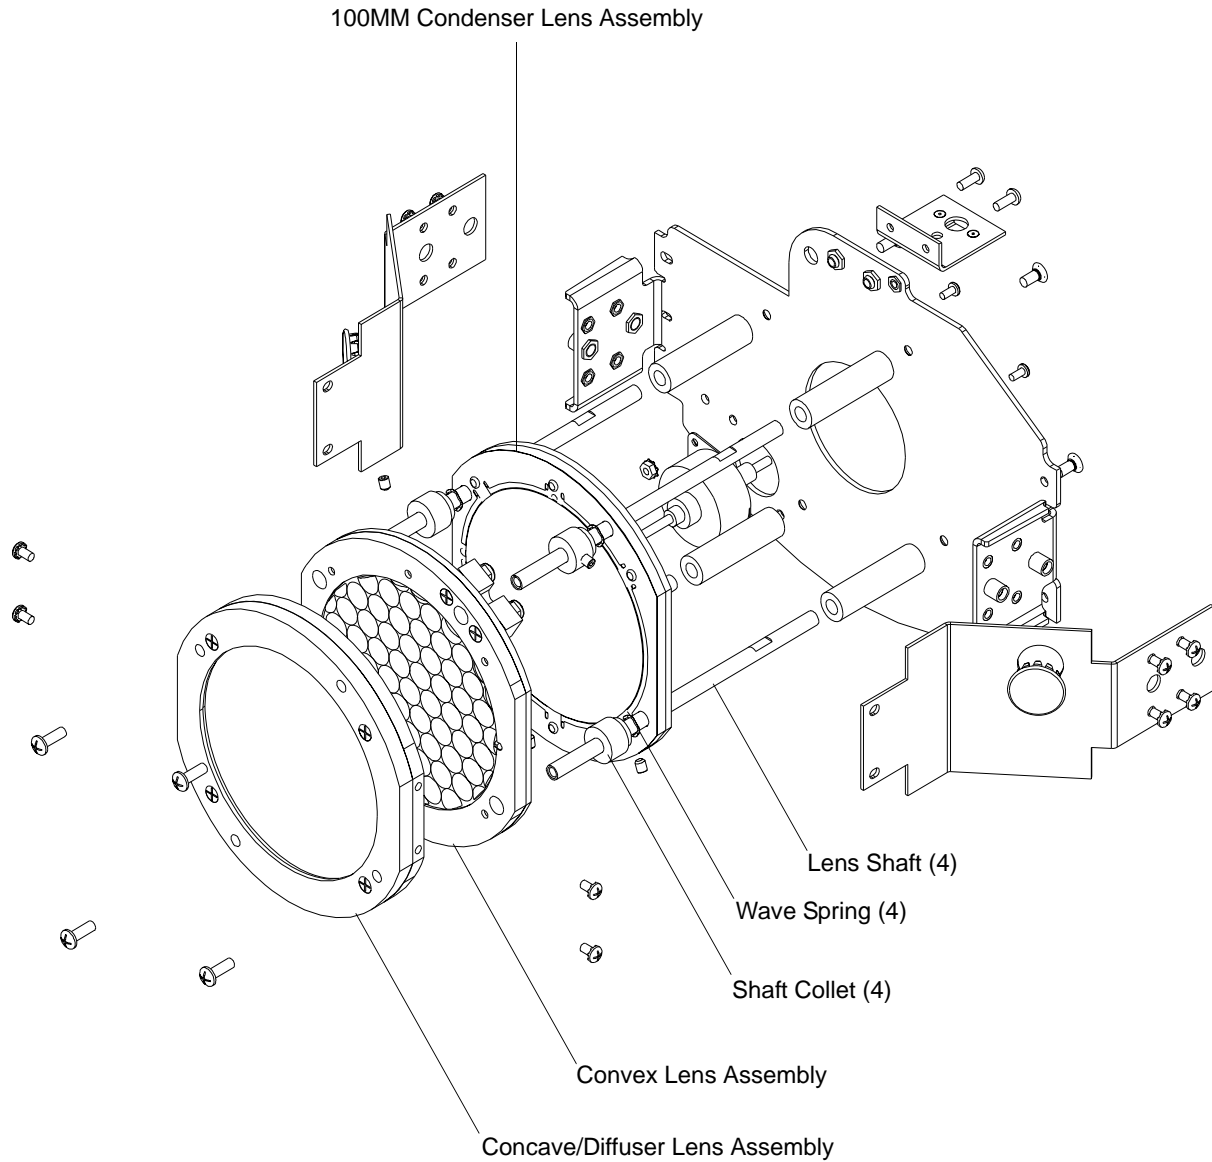

Figure 2-11: 100MM Condenser Lens Assembly Replacement
Step 5. Using 5/64 " Allen wrench, loosen eight setscrews (two each collect), and remove four shaft collets and four wave spring washers from lens shafts (Figure 2-11).